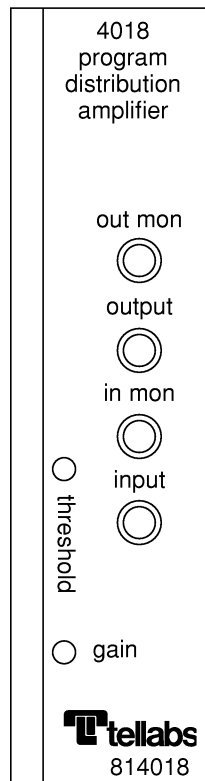

Figure 3-2 4018 Front Panel
- 3.6 Alignment consists of adjusting the module's insertion gain as required for the application and adjusting the noise threshold if the noise threshold (quieting) circuit is to be used. Insertion gain is adjusted by means of the potentiometer, labeled gain on the front panel (Figure 3-2). The input port and output port 1 may be accessed via the module's front panel jacks to assist in alignment.